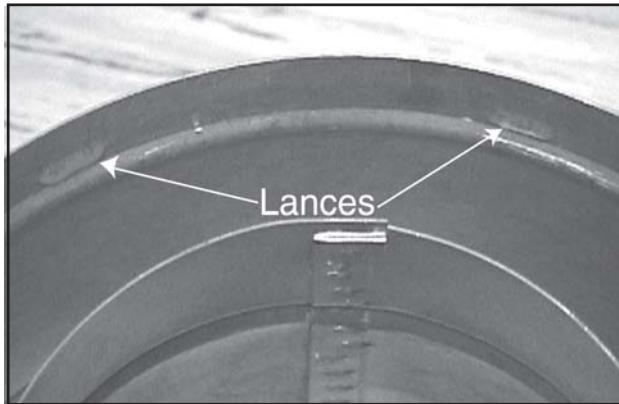

FIGURE 16.
- Slide the male end of the inner flue of the pipe section into the inner collar on the heater. At the same time, insert the outer flue into the outer collar on the heater. Push the flue section into the appliance collar until all the lances (see Figure 16) have snapped in place. Tug slightly on the flue to confirm that it has completely locked into place.